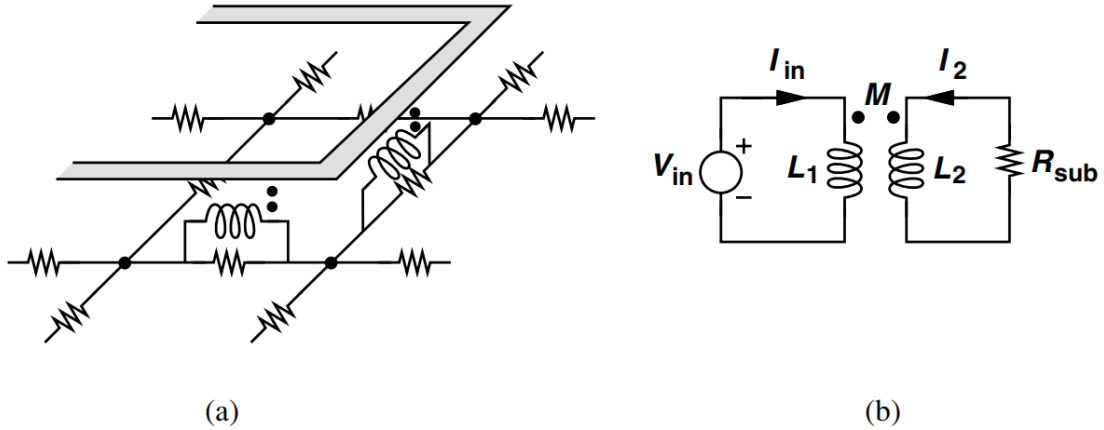

Figure 7.28 (a) Modeling of magnetic coupling by transformers, (b) lumped model of (a).
7.7. For the circuit of Fig. 7.28(a), compute Y_{11} and find the parallel equivalent resistance. Is the result the same as that shown in Eq. (7.55)?